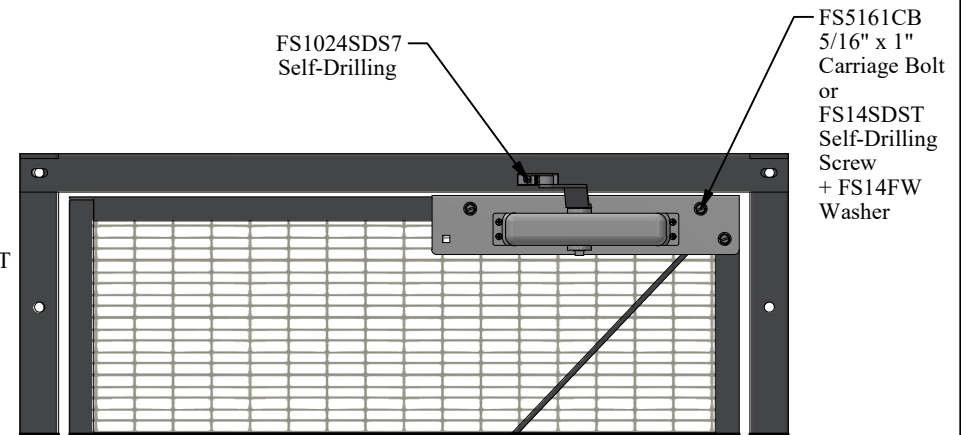

Fig. 6A
1. Position closer onto door as shown in Fig. 5A or Fig. 6A